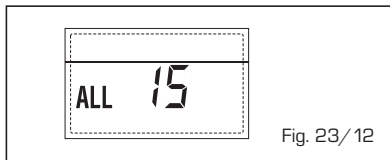

Fig. 23/12
**- ANOMALIA SONDA EXTERNA "INTERMITÊNCIA" (fig. 23/13)**